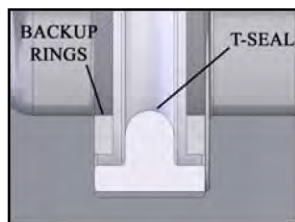
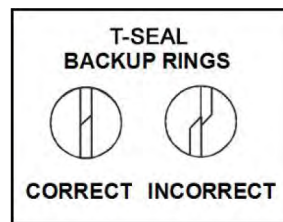

FIGURE 2
FIGURE 3
- Lubricate the T-Seal with clean hydraulic oil. Install into the piston I.D. groove in the orientation shown in **Figure 2**.
- Install the Backup Rings on both sides of the T-Seal as shown in **Figure 2**. Make sure the ends of the Backup Rings do not overlap as shown in **Figure 3**. Orient the ends of both Backup Rings 180 degrees opposite of each other.